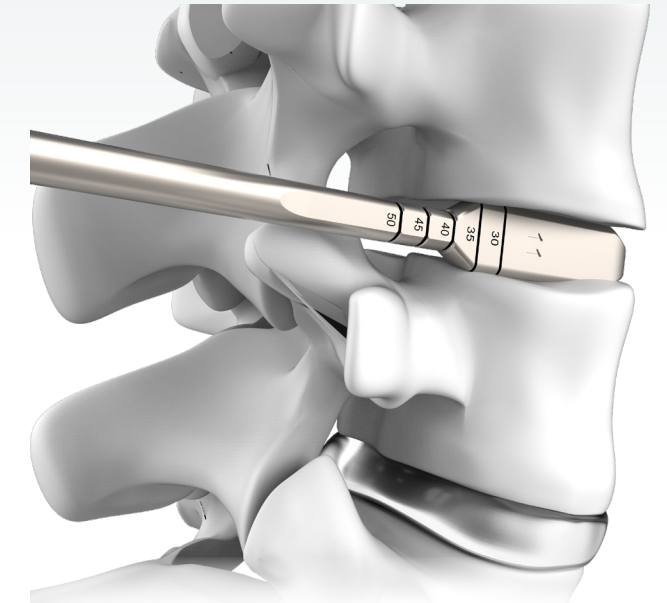

Figure 5
- Effective distraction aids in removal of the superior articular process, decompression of the neuroforamen, preparation of the disc space and insertion of the implant. This may be accomplished through several techniques: pedicle screw distraction, distraction between bony elements, and/or distraction with paddle distractors (Figure 5).